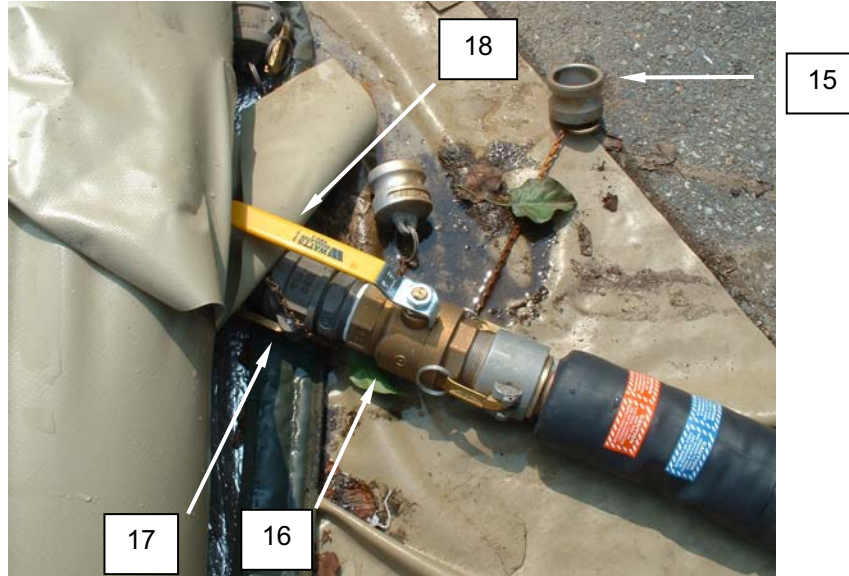

Figure 5. Preparing the Source Water 3000-Gallon Water Tank.
2. Remove the dust cap (**Figure 5, Item 15**) and set aside. Install the water shutoff valve (**Figure 5, Item 16**) onto the connector (**Figure 5, Item 17**) of the water bag. Ensure that the valve handle (**Figure 5, Item 18**) is in the OFF position as shown on the valve handle label.
3. Use the adjustable wrench provided to remove the valve handle (**Figure 5, Item 18**) from the valve (**Figure 5, Item 16**). Install the valve handle 180 degrees from the original installation.